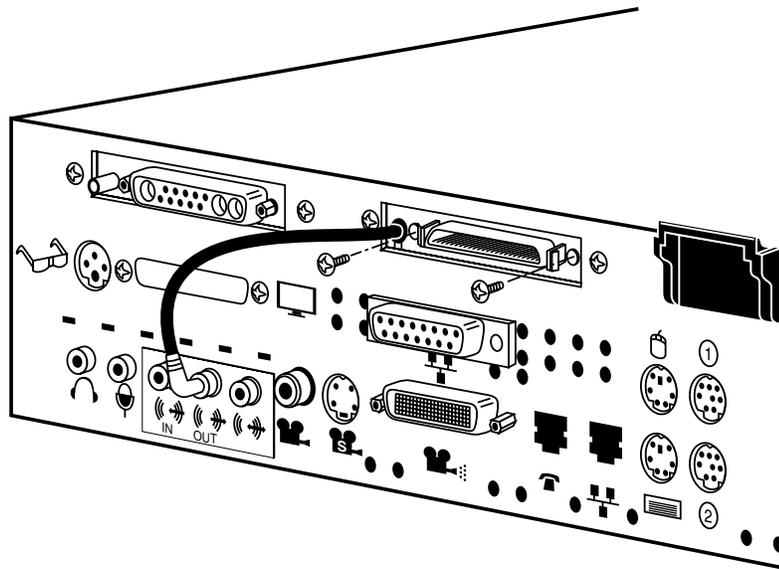

Figure 3-17 Attaching the External Screws
9. Connect the external end of the audio cable to the audio out port on the rear of the Indy chassis, as shown in Figure 3-17.
- Using the Phillips screwdriver, insert and tighten one screw on either side of the connector, as shown in Figure 3-17.